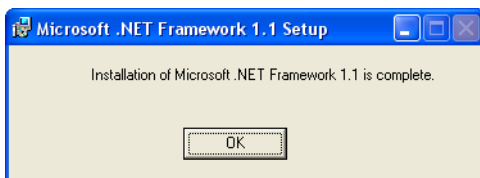

Figure 10: Installation Complete
- When the installation is complete, a window appears (see Figure 10). Click on the  button.